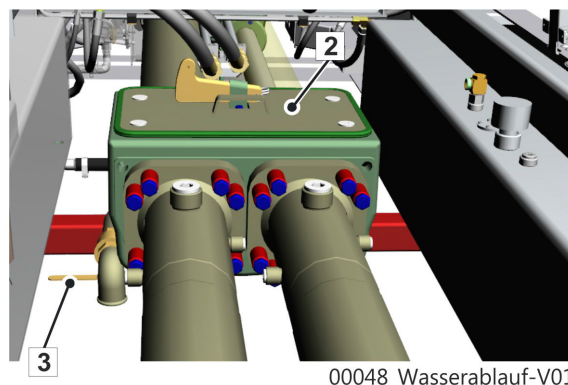
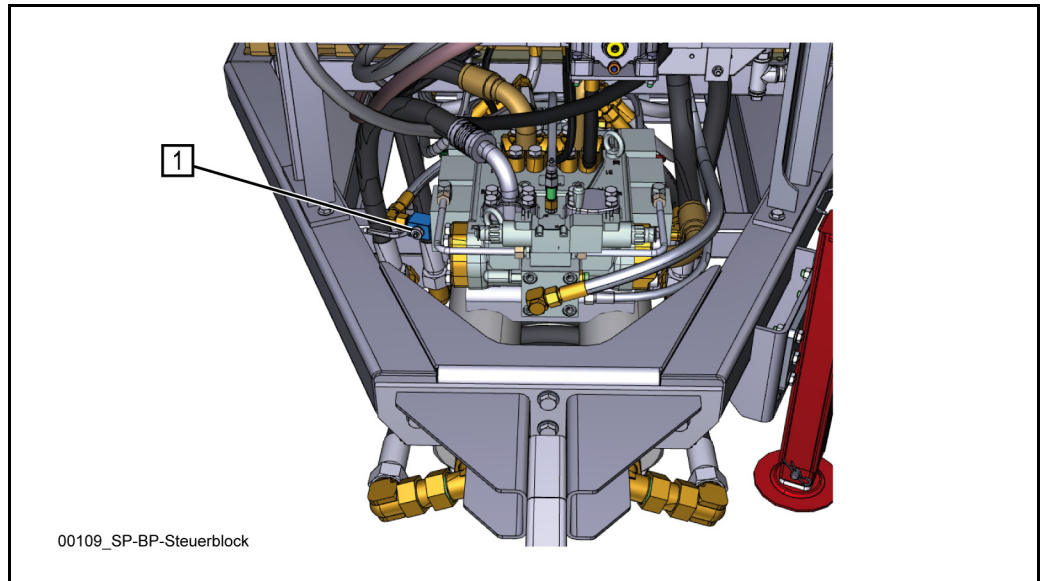
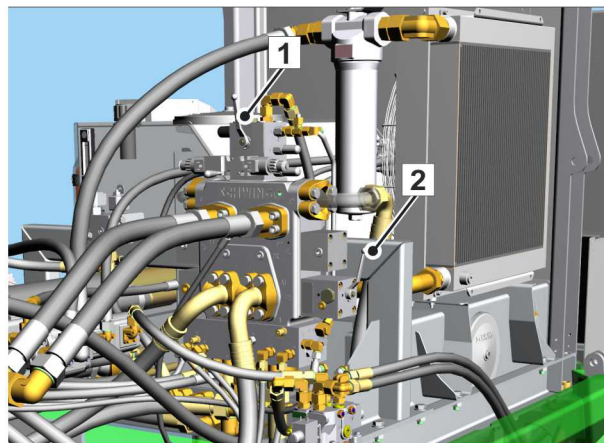

Fig. 180 Example
Fig. 181 Example SP 1800
Fig. 182 Example of SP 3800 BR02
- Take off the top cover of the water box (2) (**Fig. 180**) and remove the protective grills.
- Drain the water with the lever (3).
- Switch the ball valves (1) (**Fig. 181**) or (1+2) (**Fig. 182**) or (**Fig. 183**) to the "Pressure control" position in order to prevent the piston rods from switching into the end positions.
- Close the ball valve 1 (**Fig. 181**) on the concrete pump control block in order to prevent the piston rods from switching into the end positions.
- Lift the top cover off of the water box (2) (**Fig. 180**) and remove the protective grills.
- Close the ball valves (1) (**Fig. 181**) or (1+2) (**Fig. 182**) / (**Fig. 183**) on the concrete pump control block. Closing the ball valve prevents switching of the piston rods in the final position.
- Switch the ball valves (1) (**Fig. 181**) or (1+2) (**Fig. 182**) / (**Fig. 183**) on the concrete pump control block into the operating position.